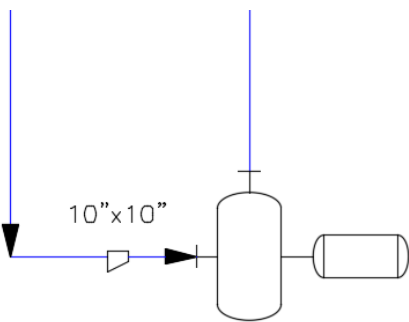

Figure 2-71 An eccentric reducer placed on the line connecting the first pump
- Choose **Eccentric Reducer** from the **Piping Fittings** area in the **Fittings** tab of the **TOOL PALETTES - P&ID PIP** and place it on the line connecting the horizontal nozzle of the pump, as shown in Figure 2-71.